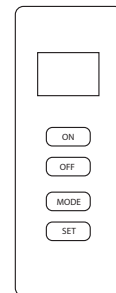

Fig.19 - Remote
7. Keep control knob depressed for (30) seconds after pilot lights. Release control knob.
- If pilot goes out repeat steps 3 through 7. Wait (1) minute before attempting to light pilot again. If after several tries the pilot still goes out, turn the gas control knob clockwise  to the “OFF” position and call a qualified service technician.
9. To use the included thermostatic remote control, set receiver switch to the “REMOTE” position (See Fig. 19). Press the ON button to turn on the remote to ignite the main burner. Refer to the remote control instruction manual on the next page for “MODE” and “SET” functions.